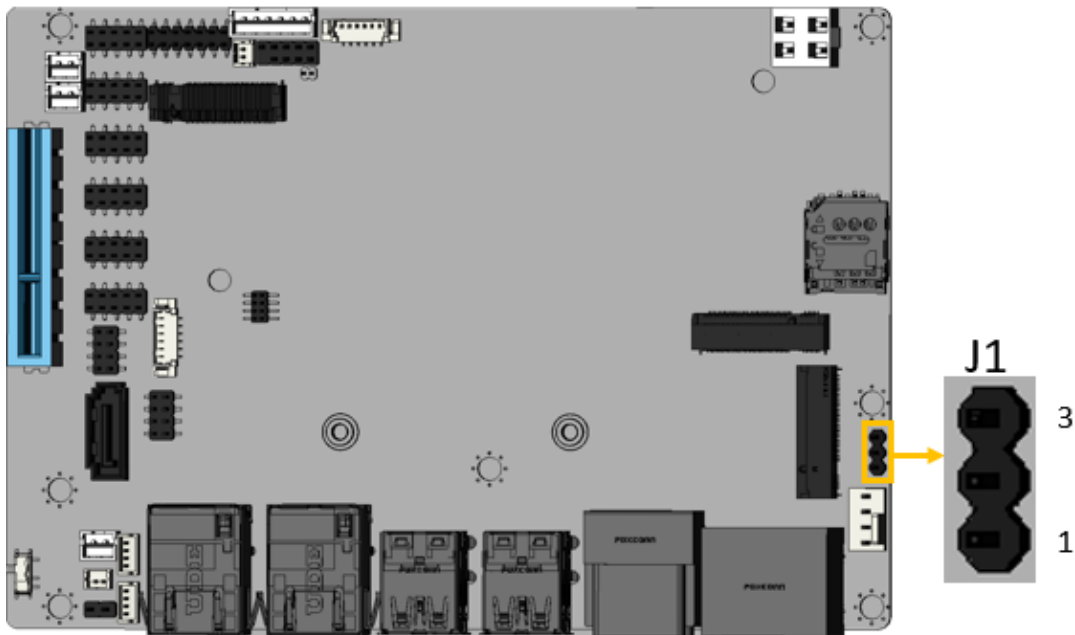

Figure 3-24: MP2960GQKT FW Flash Connector Location
- CN Location:** See **Figure 3-24**